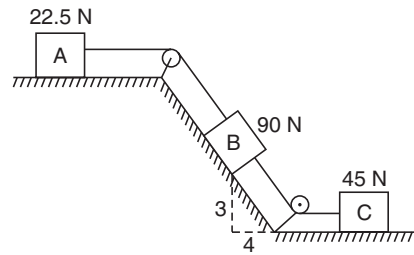

Fig. 9.16
13. Determine the constant force P that will give the system of bodies shown in Fig. 9.16 velocity of 3 m/s after moving 4.5 m from rest. Take  $\mu_k = 0.2$  for all surfaces in contact. [Ans. 97.9 N]